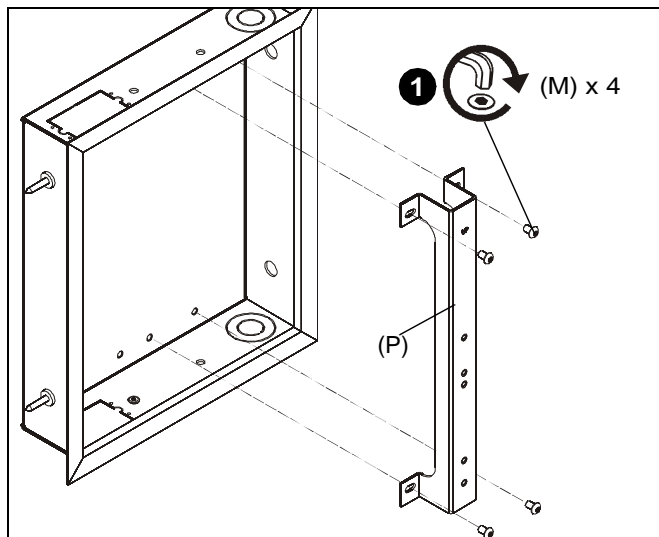

Figure 7
1. Use four 5/16-18 x 1/2" button head cap screws (M) to attach attach bracket (P) to the TA502 (A). (See Figure 7)